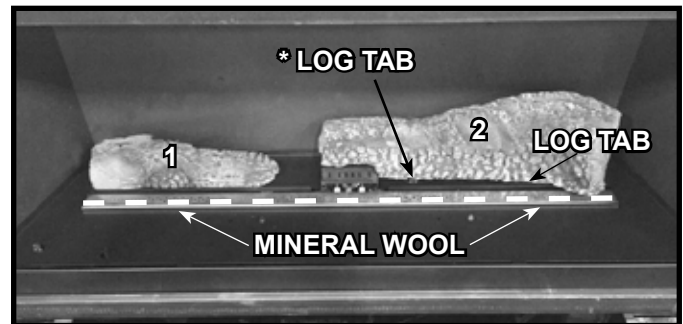

Figure 4 Place Log #2 - Mineral Wool Placement
5. Install mineral wool on burner. Mineral wool can be placed the entire length of the burner, but it must only be placed between the front row of ports and the space in front of the burner. The mineral wool should not cover any ports or fall so that it covers the gap behind the burner. See Figure 4.